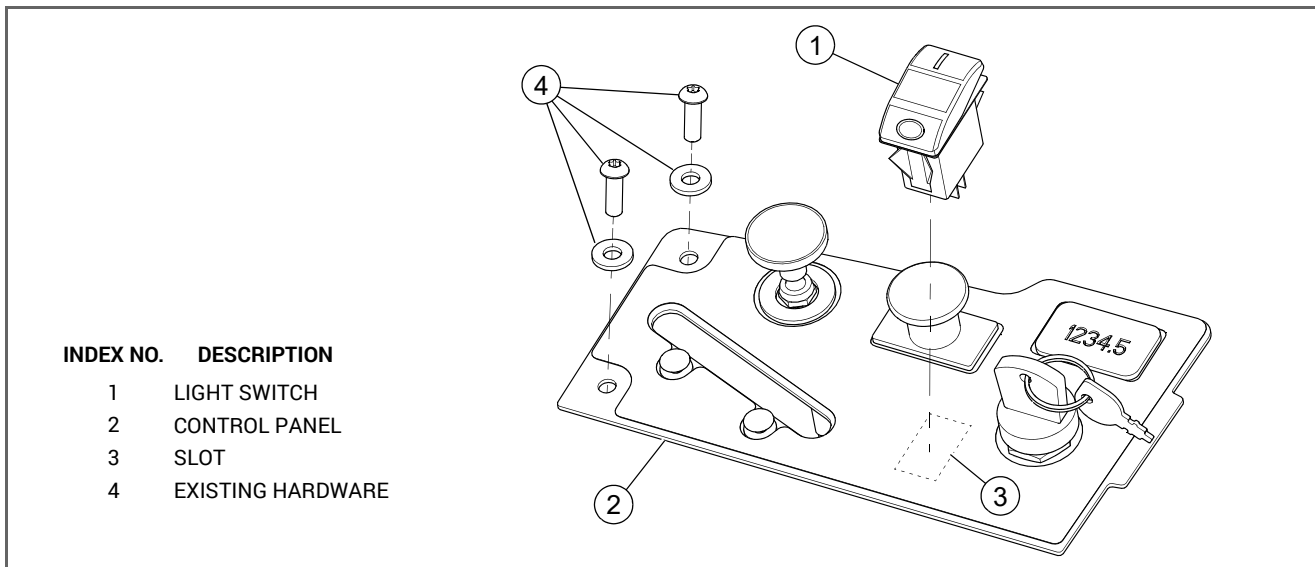

FIG. 6
9. Remove the control panel. Locate the switch slot on the underneath side of the control panel. Use a sharp knife to cut the control panel decal in the location shown. FIG. 6
10. Insert the light switch into the control panel. NOTE: Make sure the "ON" position is facing outward. Snap the light switch into the slot. FIG. 6